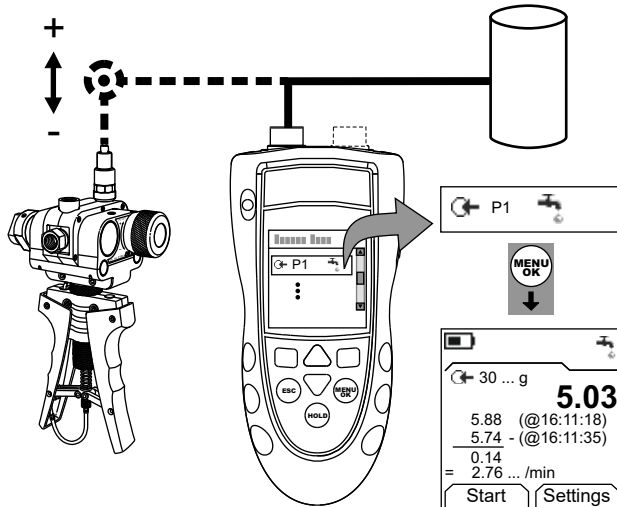

Figure 3: Example Configuration - Leak Test
1. Connect the instrument (Figure 3) and, if necessary, adjust the *Set Up* (Table 1).